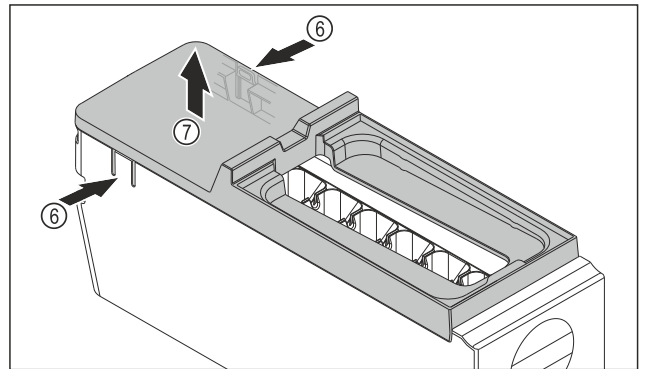

Fig. 78
- ▶ Removing the EasyTwist-Ice body cover: Push the tabs Fig. 78 (6) on both sides of the EasyTwist-Ice body with one hand.
- ▶ Use the other hand to remove the cover Fig. 78 (7) upwards.